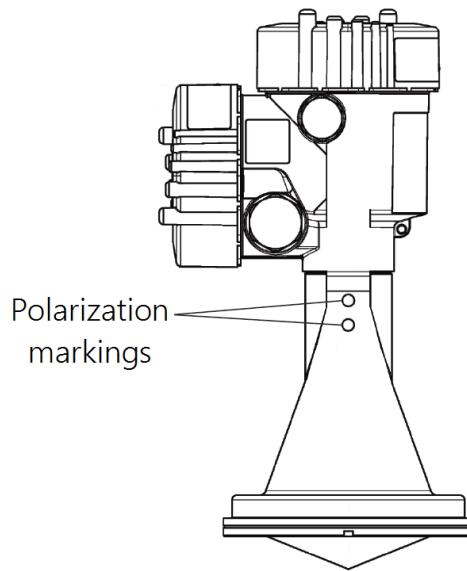

FIGURE 7-1. Polarization markings
1. Orient the sensor such that one of its polarization markings is aligned or parallel with the wall or pier (FIGURE 7-1 (p. 14)). The polarization markings are designated by the mounting loop screws.